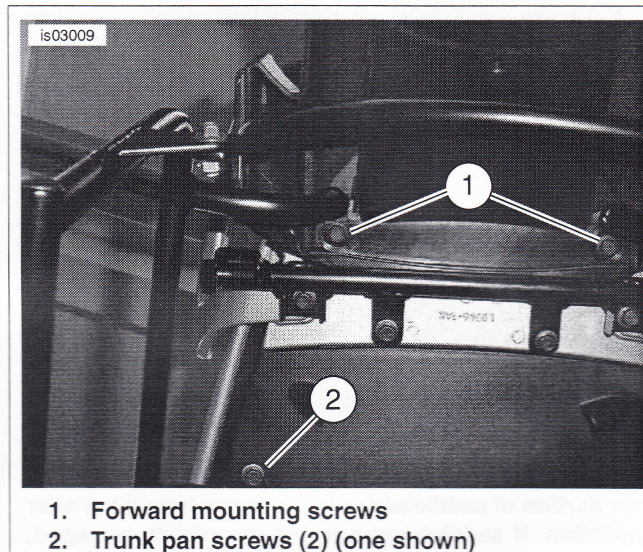

Figure 1. License Plate and Trunk Pan Screw Removal
2. See Figure 1. Remove the two forward mounting button head fasteners (1) holding the license plate bracket to the tail (under license plate bracket).